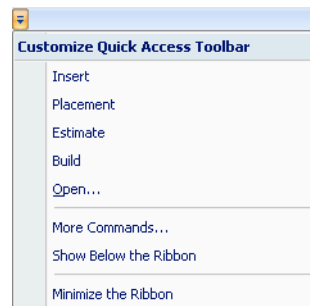

Figure 5-64: *Customize Quick Access Toolbar* menu
- From the *Customize Quick Access Toolbar* menu (see figure 5-64 on page 47), select *More Commands*.